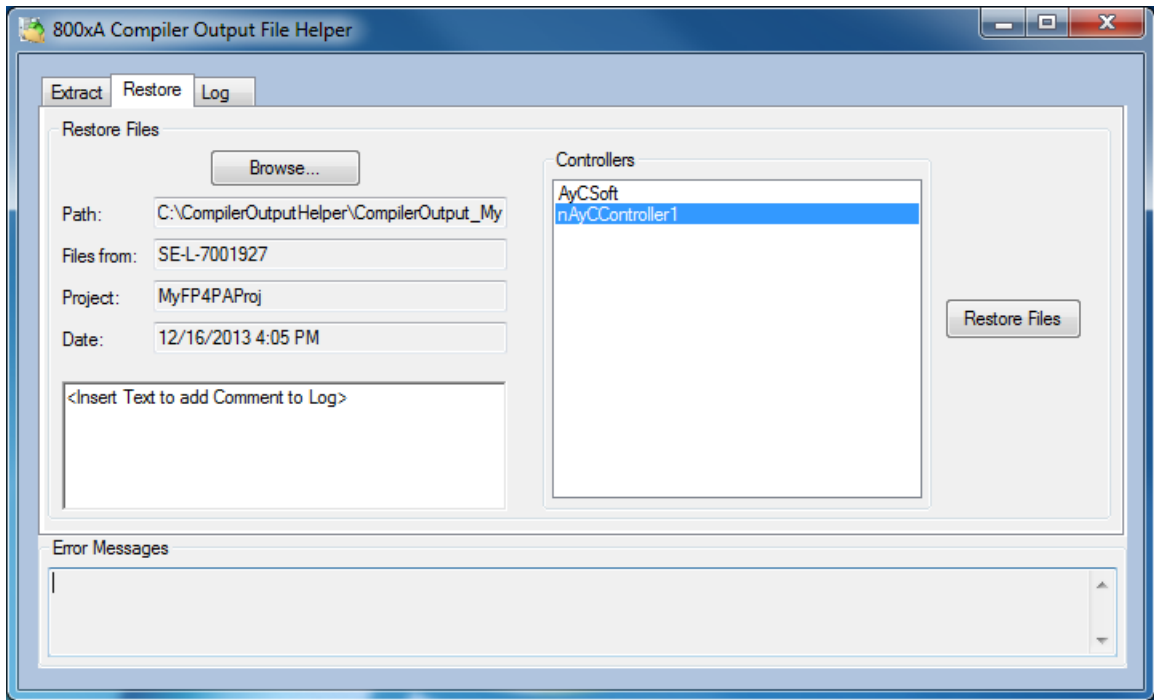

Figure 175. Restore Tab of the Compiler Output File Helper
2. Select an earlier created folder from the file browser. Information about path, computer name, project and date are shown as in the Figure 175. In addition, a